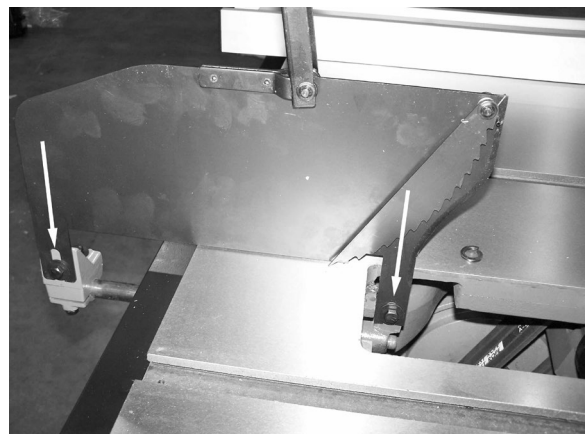

Figure 19
4. Lower the blade guard onto the front and rear brackets using the provided hex bolt and washer to secure into place as in figure 19.